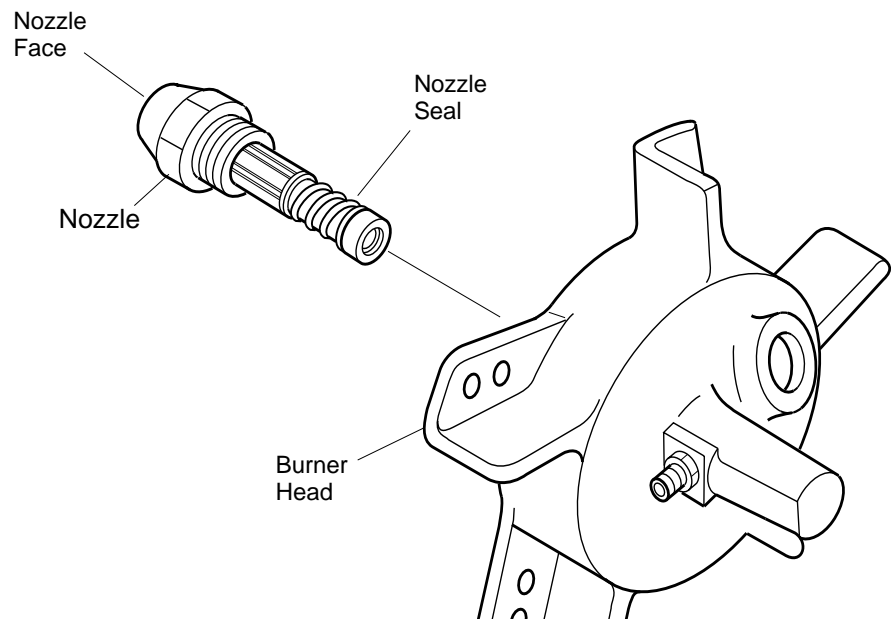

Figure 16 - Removing Nozzle
8. Carefully remove nozzle from burner head using 5/8" socket wrench (see Figure 16).